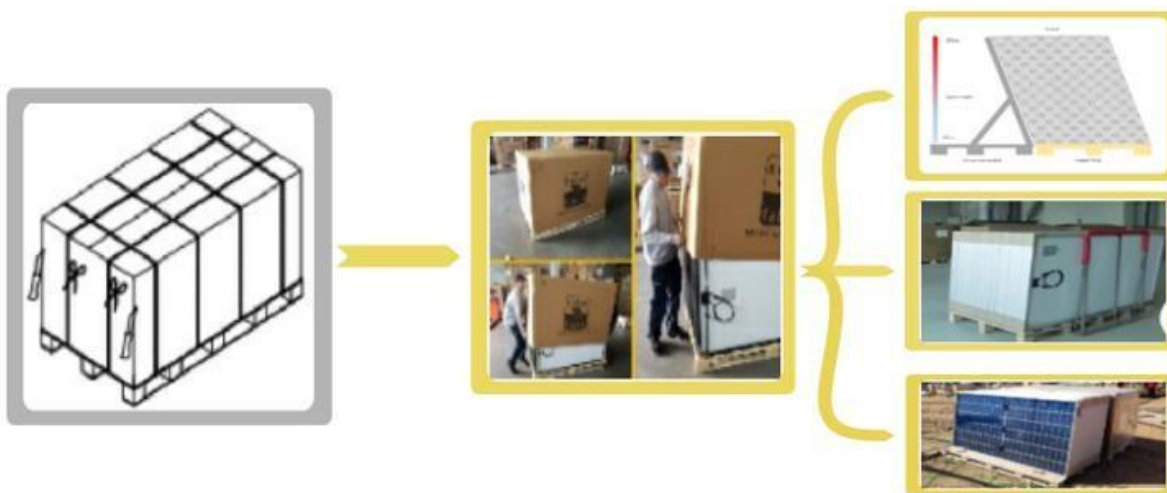

Figure 1: MODULE UNPACKING
- ◆ Unpacking of Module should always be done as shown in figure 1